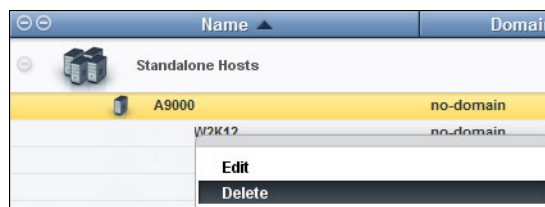

Figure 8-28 Deleting the host used for migration.
- In the XIV GUI, select the host **A9000** and select **Delete** to delete the host used for migration, as shown in Figure 8-28.